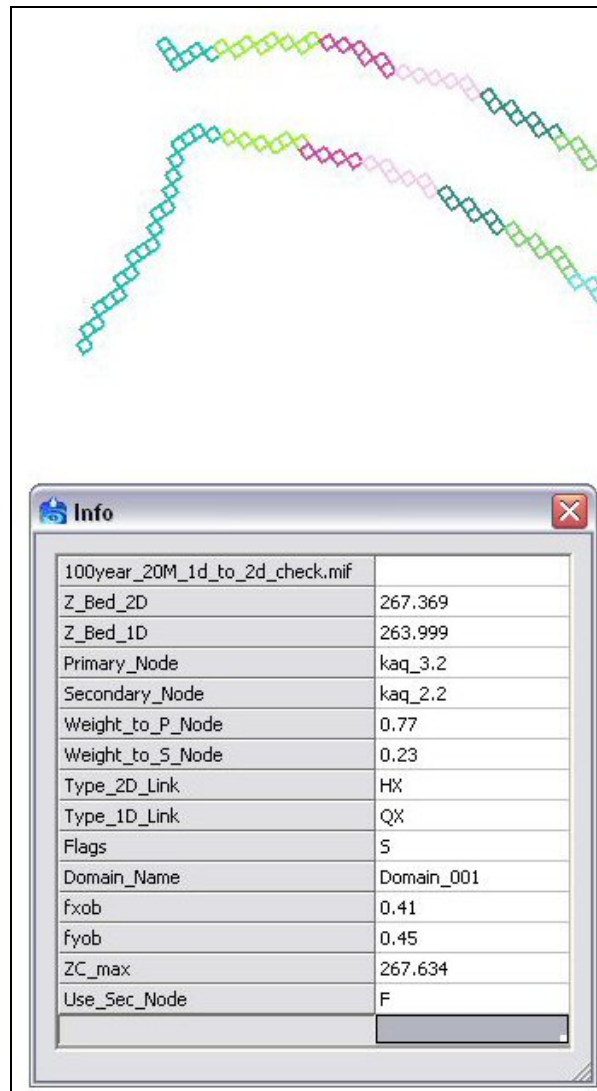

Figure 21 Sample Check File
4. A dialog will come up displaying data about the cell as in Figure 21. This information includes the bed elevations applicable for the 2D and 1D domains at the cell. The elevation of the 1D bed is interpolated from the node upstream and downstream of the cell location. The 1D nodes on each side and weights used are shown in the dialog under Primary_Node, Weight_to_P_Node, Secondary_Node, and Weight_to_S_Node.